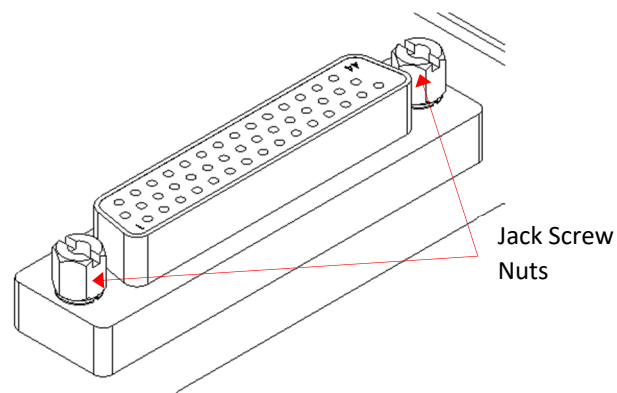

Figure 2-21: J2 Jack Screw Nuts
4. Fasten the jack screws of the cable to the Jack Screw Nuts on the J2 connector (refer to Figure 2-21).